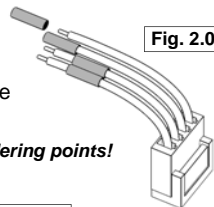

Fig. 2.0
- Slide the shrinkable tube over the wires of the female 'board to wire'-connector (fig. 2.0)